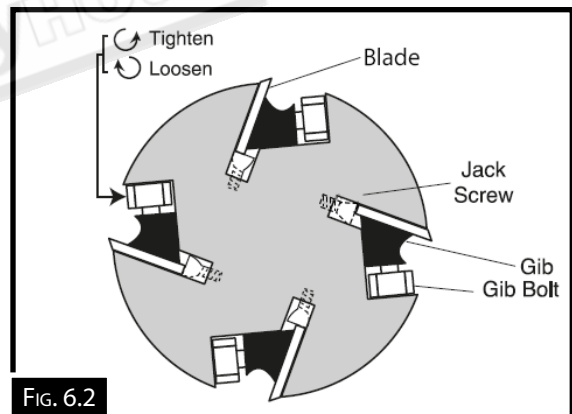

FIG. 6.2
5. Loosen the cutter-head gib bolts until the blade is completely loose. If the blades are to be replaced, remove the old blade and install the new one, making sure the beveled edge of the new knife is facing the correct direction. (Fig.6.2)